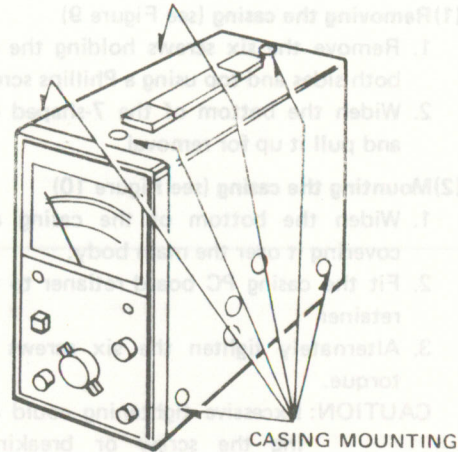

Figure 9 – Casing Removal.
(1) Removing the casing (see Figure 9)